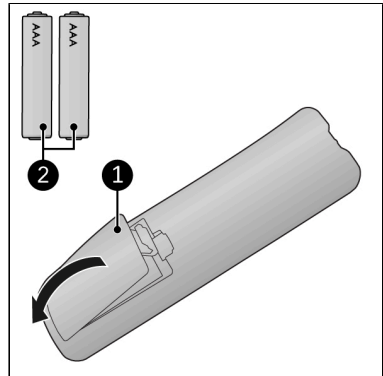

Figure 32.
1. Remove the cover (Figure 32, pos. 1).
3. Insert two batteries (AAA 1.5 V) (Figure 32, pos. 2) as indicated in the battery compartment. Make sure to insert the batteries correctly.